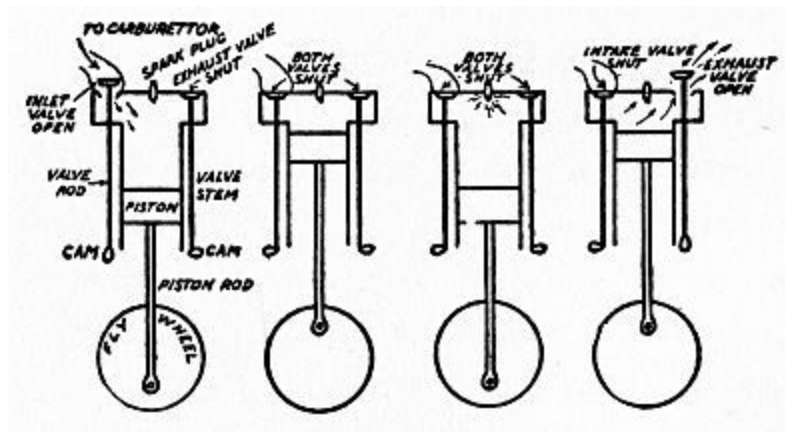

FIG. 31. HOW A FOUR-CYCLE GASOLINE ENGINE WORKS.
It consists of (1) a *cylinder* with *valves* in it and in which a piston moves to and fro; this is connected to (2) a crankshaft by means of (3) a piston rod as shown in Fig. 31. To the cylinder is fixed (4) a *carburetor* which mixes the gasoline with the air and forms the explosive gas, or *fuel mixture* as it is called, and (5) a *high tension magneto* which generates an electric current to make the spark that fires the fuel mixture, etc.
Fig. 31 shows how the inlet and exhaust valves are worked, each one by a little wheel with a lump on one side, or *cam*, as it is called, which is fixed on a *cam-shaft* and is turned by the crankshaft. The cams, of which there are two for each cylinder, are set directly under the ends of the *valve rods*, and as the cam-shaft revolves, the little lumps on the cam strike the valve rods at the right moments and this lets the fuel mixture into the cylinder and lets the used and burnt-up gases out of it.
Fig. 31 also shows the complete action of a four-cycle engine. The *suction stroke* is shown at *A*; as the piston moves down, the cam forces the inlet valve up and the piston sucks the fuel mixture into the cylinder. The exhaust valve is closed while this stroke is taking place.